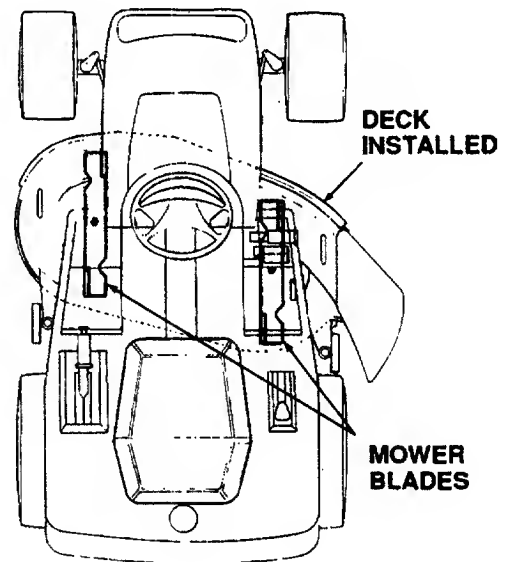

Figure 32
2. Position the mower blades so the ends of each blade point to the front and to the rear of the tractor (Refer to Figure 32).